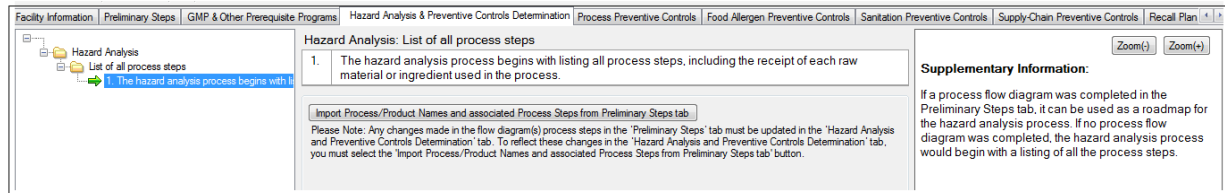

Figure 38: Import Process Steps Button
- b) Enter the required Product/Process Name in the text field provided (as shown in Figure 38). The product process name and associated process steps must be entered in accordance with the provided examples to ensure that the FSPB tool will properly capture the information in the proper sequence. Note that the spacing and format of the step number are critical.